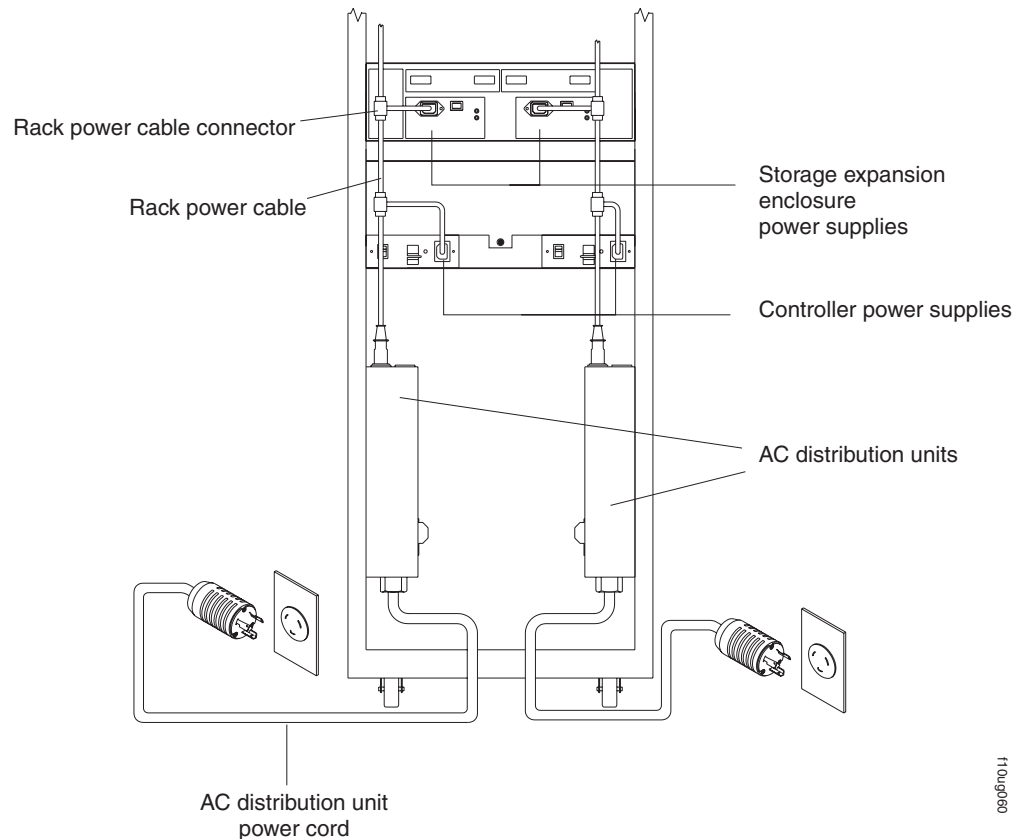

Figure 68. Redundant AC power connections to controllers and storage expansion enclosures
See Figure 68 on page 91 for an example of redundant power cabling.
- To maintain power redundancy, plug the storage subsystem's right and left RAID controller units into two independent external power circuits through ac distribution units inside a rack cabinet or directly into external receptacles. Similarly, the right and left power supplies of the DS4000 storage expansion enclosures attached to the DS4800 should be plugged into the same two independent external power circuits as the DS4800. This ensures that the DS4800 and all its attached storage expansion enclosures will have power if only one power circuit is available. In addition, having all the right or all the left power cables plug into the same power circuit will enable the components in the storage subsystem to power on simultaneously during an unattended restoration of power. See Figure 68 on page 91 for an example of redundant power connections.